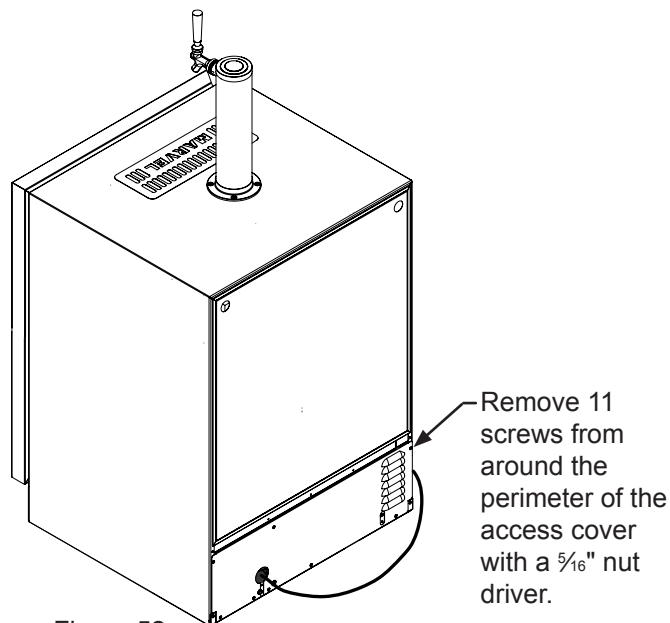

Figure 52
14. Remove the rear access cover, (see Figure 52), and use a brush and vacuum to clean dirt and debris from the machine compartment.